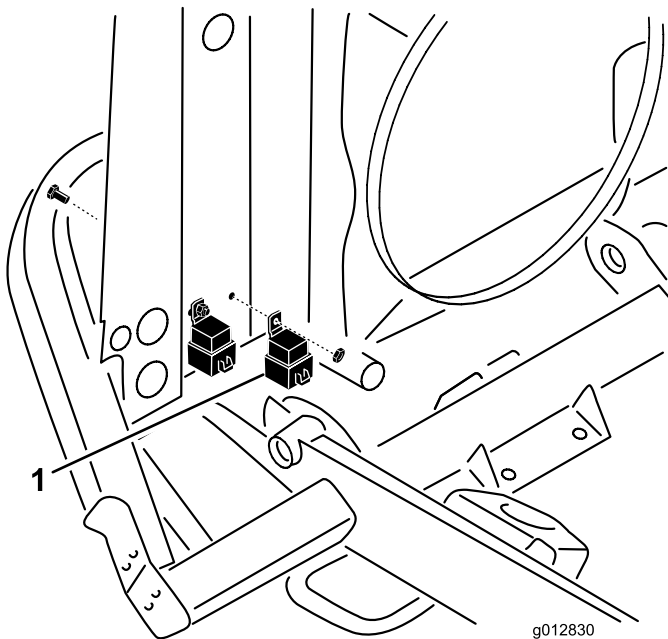

Figure 24
42. Using the existing holes, mount 2 relays to the front of the radiator frame with 2 screws (1/4 x 1/2 inch) and locknuts (1/4 inch) (Figure 24).